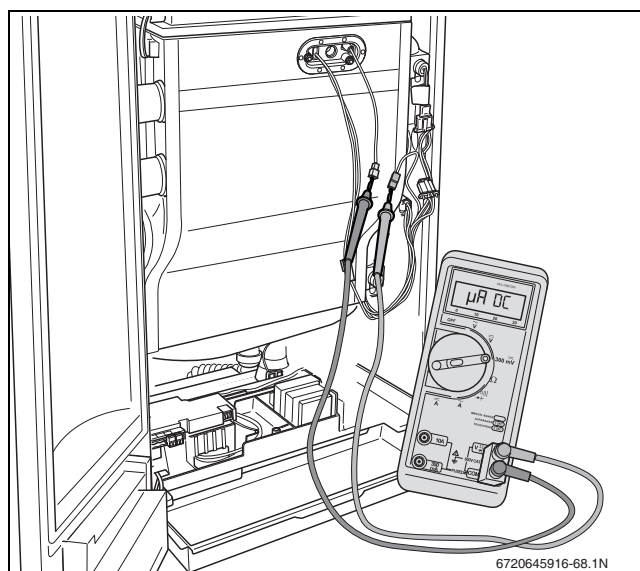

Fig. 72 Measuring the ionization current
- ▶ Connect the multi meter in series (→ fig. 72). Select the μA DC range on the multi meter. The multi meter must have a resolution of at least $1 \mu A$.